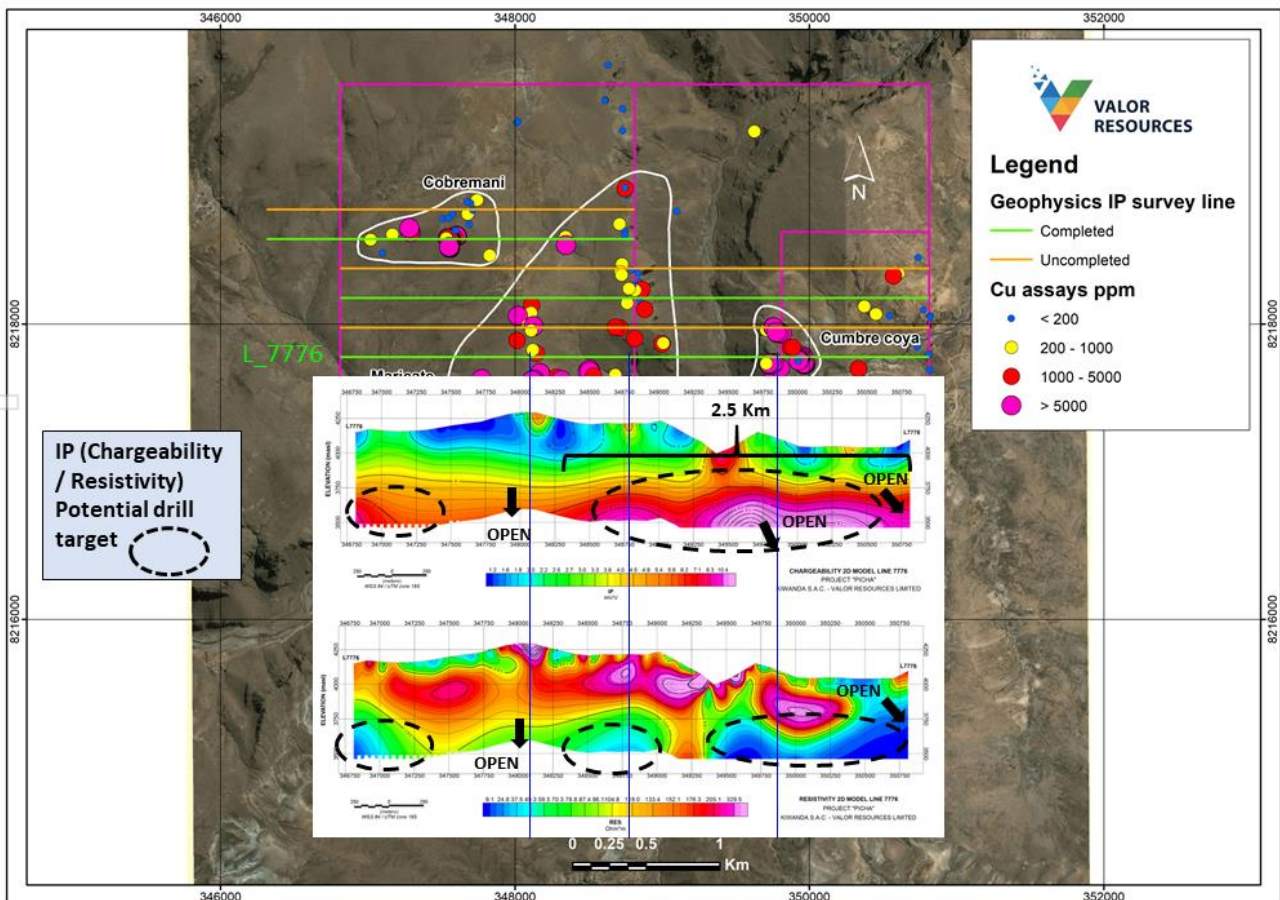

Figure 1: Picha Project IP survey section line L\_7776 (aligned with plan view of surface geochemistry showing copper assay results)
Valor Resources Limited (“Valor” or the “Company”) is pleased to announce the commencement of a ground geophysical survey at the Company’s Picha Project in Peru. A ground magnetic and Induced Polarisation (IP) survey has commenced with the first three lines of the IP survey completed and 70% of the ground magnetic survey completed. Preliminary results have been received for the first three lines of the IP survey which have revealed chargeability anomalies at depth which correlate with surface mineralisation at the Cumbre Coya, Maricate and Cobremani target areas (see Figures 1, 2 & 3 – IP lines L\_7776, L\_8176 & L\_8576).